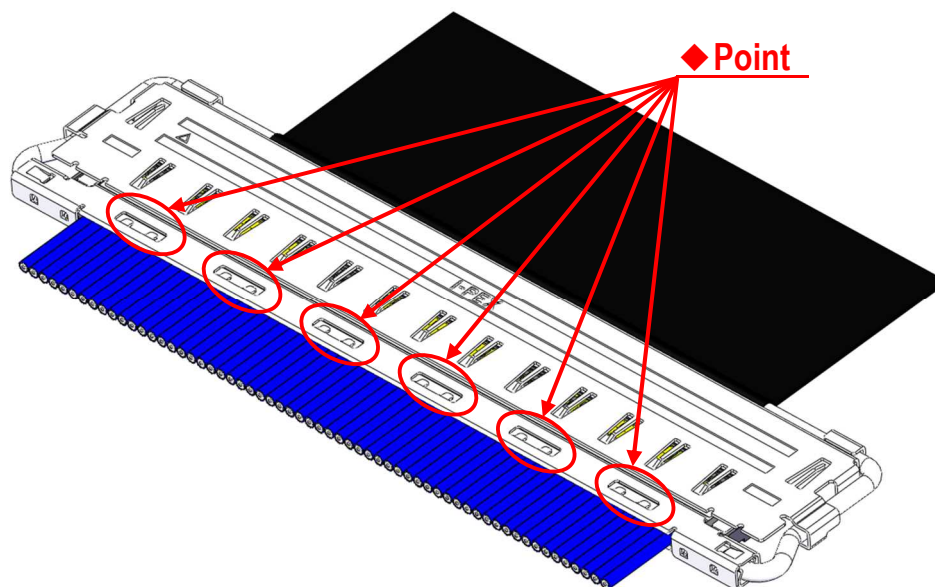

Fig.9 Soldering of SHELL-A and GND BAR
- ③ Soldering SHELL A, B and GND BAR with the soldering iron at all designated points is recommended. (Fig.9,10 ◆ point)